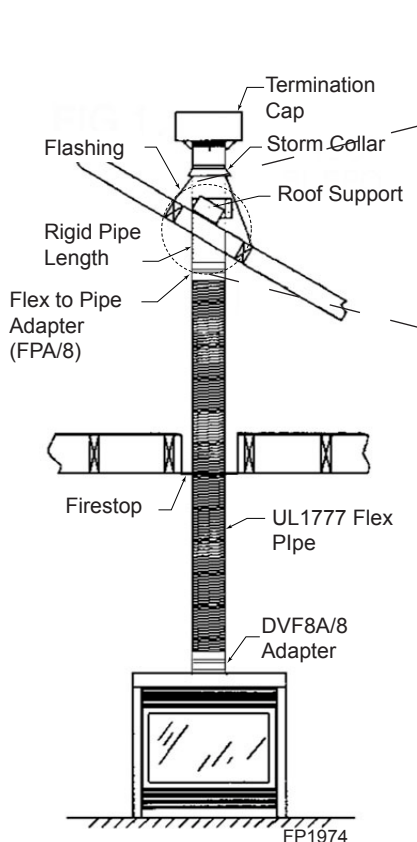

Figure 26 - Typical Vertical Flex Vent Installation
2. Install firestop spacers, *Figure 26*, when penetrating ceiling, attic spaces, or walls.
4. Use only listed and approved terminations and accessories, installed per the installation instructions and *Figure 26*.